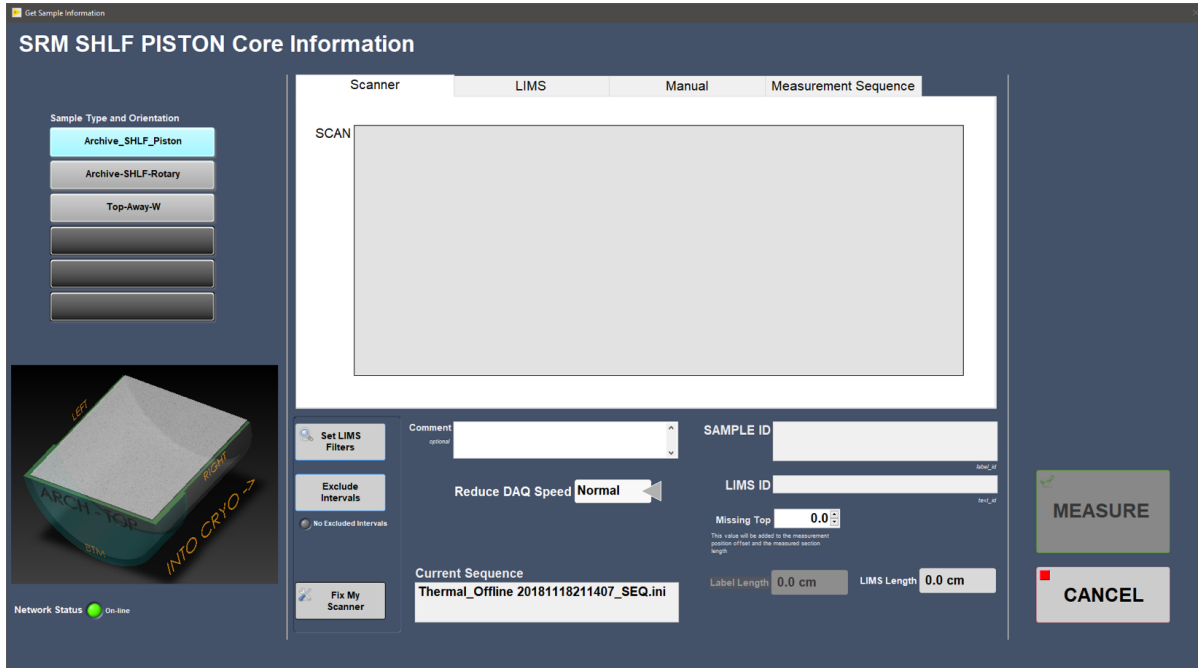

Figure 21- Sample Information Window: Section Half Scanner Sample Entry
- 1) Select **START** on the IMS panel (Figure 2) to open the sample information window (Figure 21).
- **Scanner** mode: Place cursor in the scan box; scan the section half label from the end cap (Figure 21).
- 1) Click **START** on the IMS Control Window (Figure 2) to open the sample information window (Figure 21).